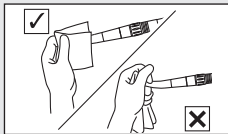

Fig. 22
- If you wish to purge excessive oil from inside the handpiece, rotate the handpiece for approx 15 seconds without a bur. During the rotation, do not depress the push button, especially when using absorbent cloth to prevent lubricant from scattering. Depressing the push button during rotation may damage the chuck mechanism (Fig. 22).